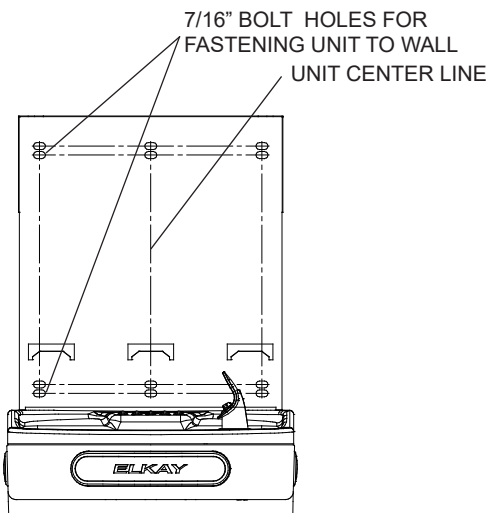

Fig. 8
- 2) Remove wall mounting plate from Bottle Filler. Place wall plate against wall on top of basin. Center the wall plate side to side with the basin. Mark the six (6) mounting holes with a pencil (See Fig. 8).
- 4) Install wall mounting plate to wall using six (6) 7/16" oround mounting holes (mounting bolts not included) (See Fig. 8). Use appropriate fasteners for your wall type.